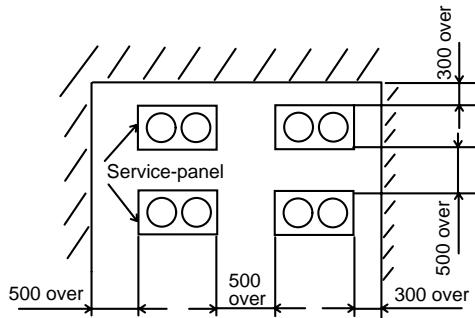

Fig 5
### (2) Relation of unit when many set up unit. (Fig 5,6,7)